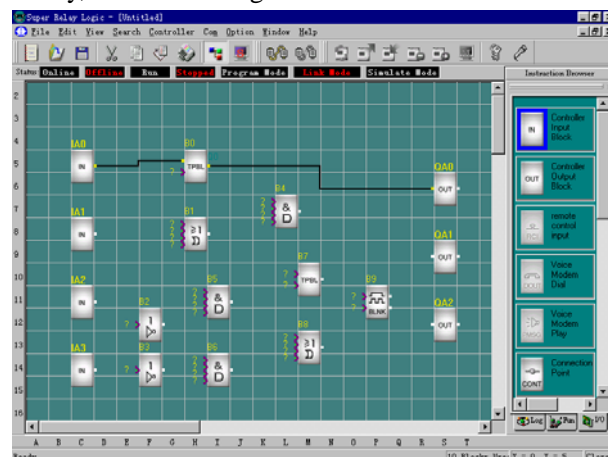
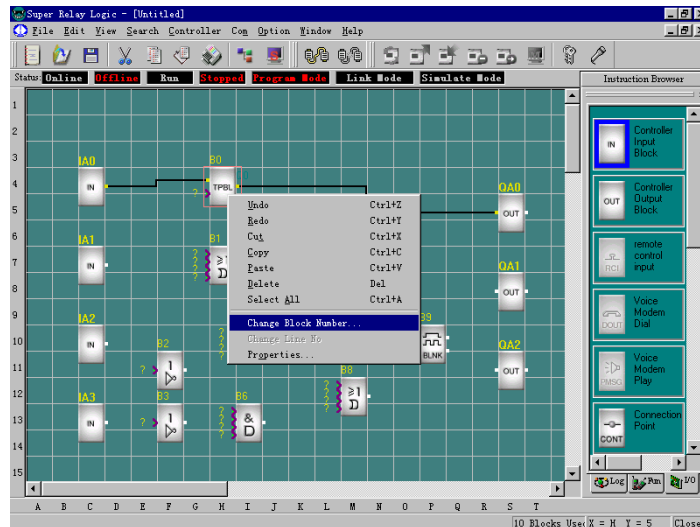

Fig 4.9 Set up Module Link
Fig 4.10 Modify Module Tab
4. Modify the tab of the module: press left button of the mouse above the module, dialog box as fig 4.9 appearances, select “Change Block Number”, dialog box as fig 4.10 will flip out, it's time to modify the tab of the module.